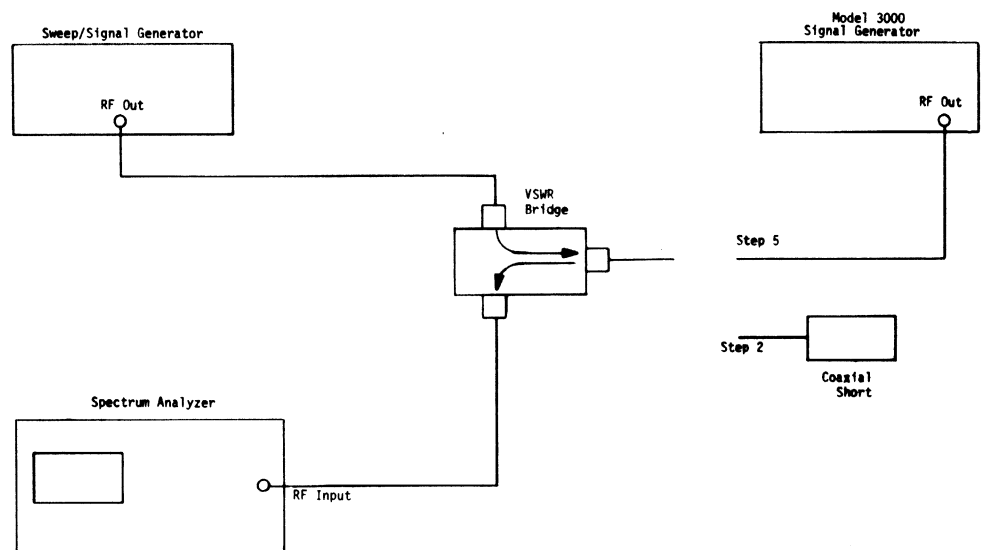

Figure 4-8. Test Setup
2. Use the setup in Figure 4-8. Connect the sweep/signal generator to the input port, the spectrum analyzer to the reflected output port and the coaxial short to the device-under-test port of the VSWR bridge.